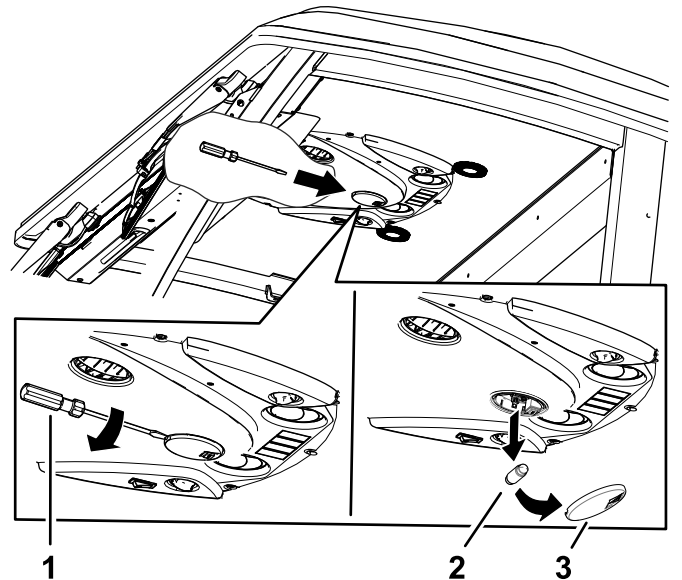

Figure 128
1. Use a screwdriver to remove the light lens from the control panel. (Figure 128)
2. Remove the bulb from the light base (Figure 128).